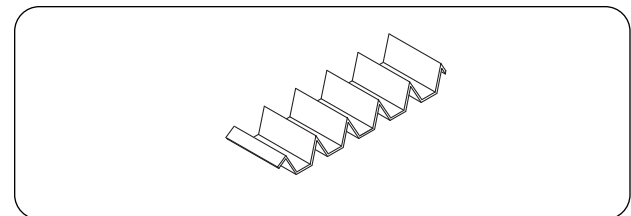

Figure 18. Five Pleat Hardcoated Fry Box Ribbon
A five (5) pleated hardcoated box tray can be added to hold french fry boxes. (See Figure 18.)